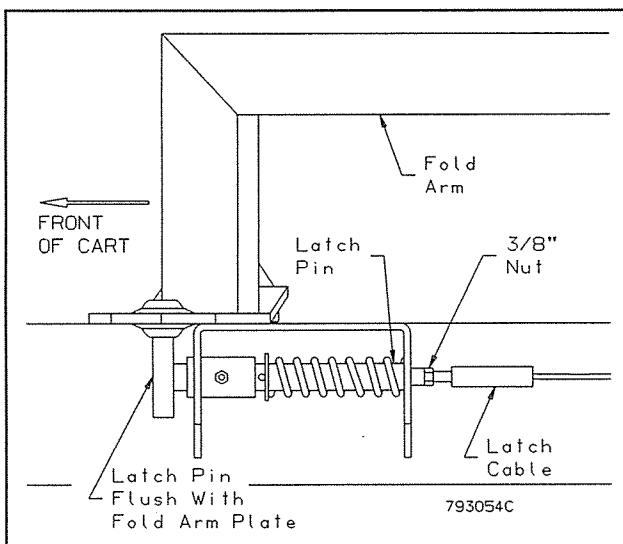

Figure 2.2h: Latch Engaged - Model 55
- 13b. Model 55: Raise secondary wing booms to 46" spray boom height, fold arm should be fully engaged by latch pin. Raise secondary booms completely, fold arm should clear latch pin. Adjust cable if required, Figures 2.2h and 2.2i.